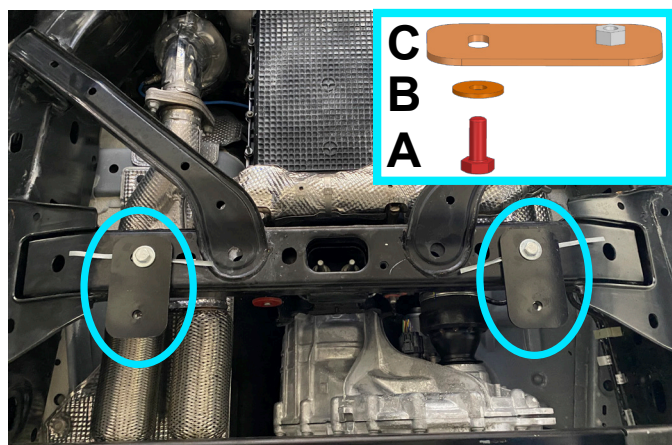

Fig. 8
6. Fix brackets (item C) to installed insert nut M10 (item D) from step 3, using bolts M10x30 (item A) and washers 10 (item B), as shown in fig.8.